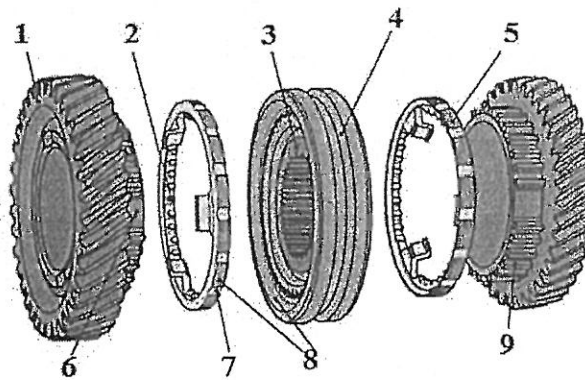

Figure 2
- c. Annotate the components of figure 2.